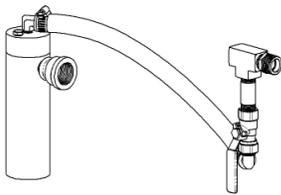

Fig 13A
- F2K Flow inducer with on/off ball valve (2" submersible & transfer pumps) (Fig 13A)
- F3K Flow inducer with on/off ball valve (3" submersible & transfer pumps) (Fig 13A)